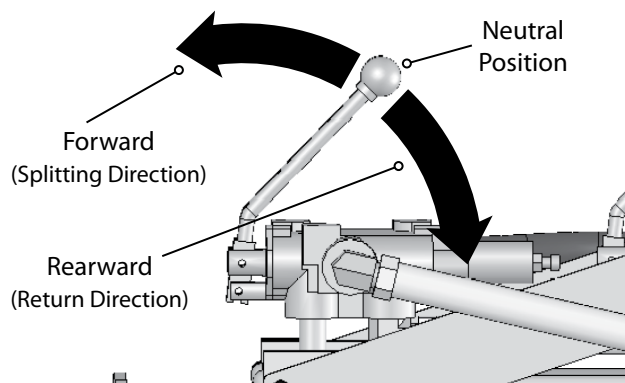

Figure 17
4. Move control lever forward to extend the hydraulic cylinder all the way. (It is normal for the cylinder to not move smoothly as it purges the air from the system.) **SEE FIGURE 17 AND/OR 18.**
5. Move control lever to the return position until ram is retracted fully. **SEE FIGURE 17 AND/OR 18.**
With the correct amount of hydraulic fluid in the system, operate the cylinder ram all the way into the forward direction and all the way in the return direction. **SEE FIGURE 17 AND/OR 18.** Check that the ram moves smoothly without jerking. Check that there is no leaking of fluids at component ports, fittings, or hoses. If leaking is found, tighten fittings or clamps until leaking goes away. If leaking doesn't go away, contact Earthquake Customer Service (800-345-6007 M-F 8:00-5:00 PM CST, or e-mail [info@ardisam.com](mailto:info@ardisam.com)).
3. Depress the control valve handle forward toward the log so that the cylinder will drive the wedge into the log. Extend the cylinder until the log splits or the wedge travels to the end of its stroke. If the log has not completely split after the cylinder has reached the end of its extension, retract the cylinder. Retract the cylinder by pulling back on the control valve handle. **SEE FIGURE 17 AND/OR 18**